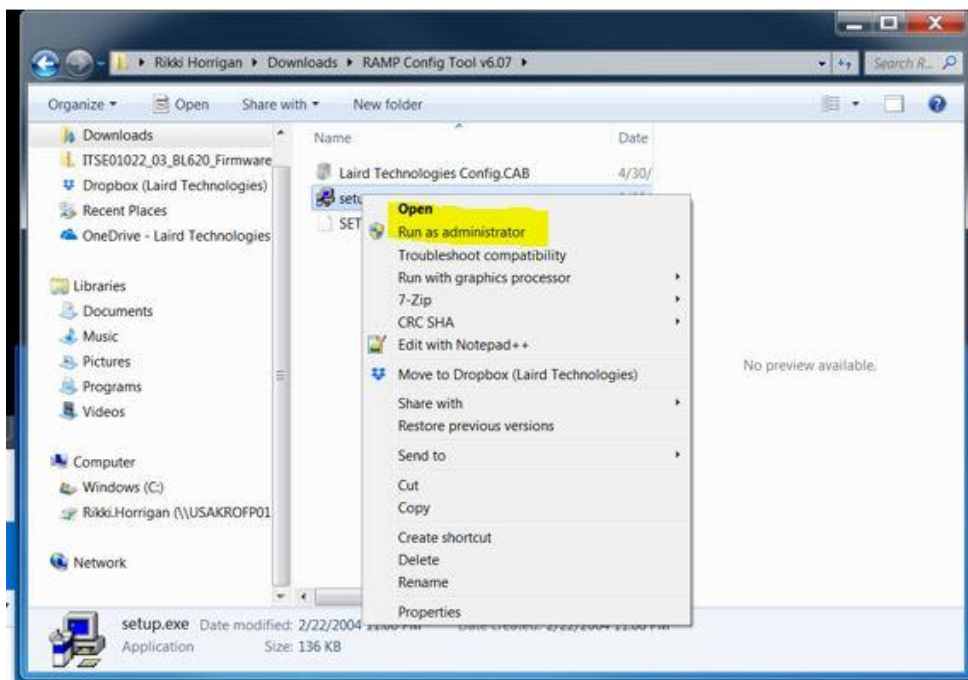

Figure 2: Run as Admin
2. Install the extracted files. Be sure to run the installation software as administrator (right-click on Setup.exe and select "Run as administrator"), as shown in Figure 2.